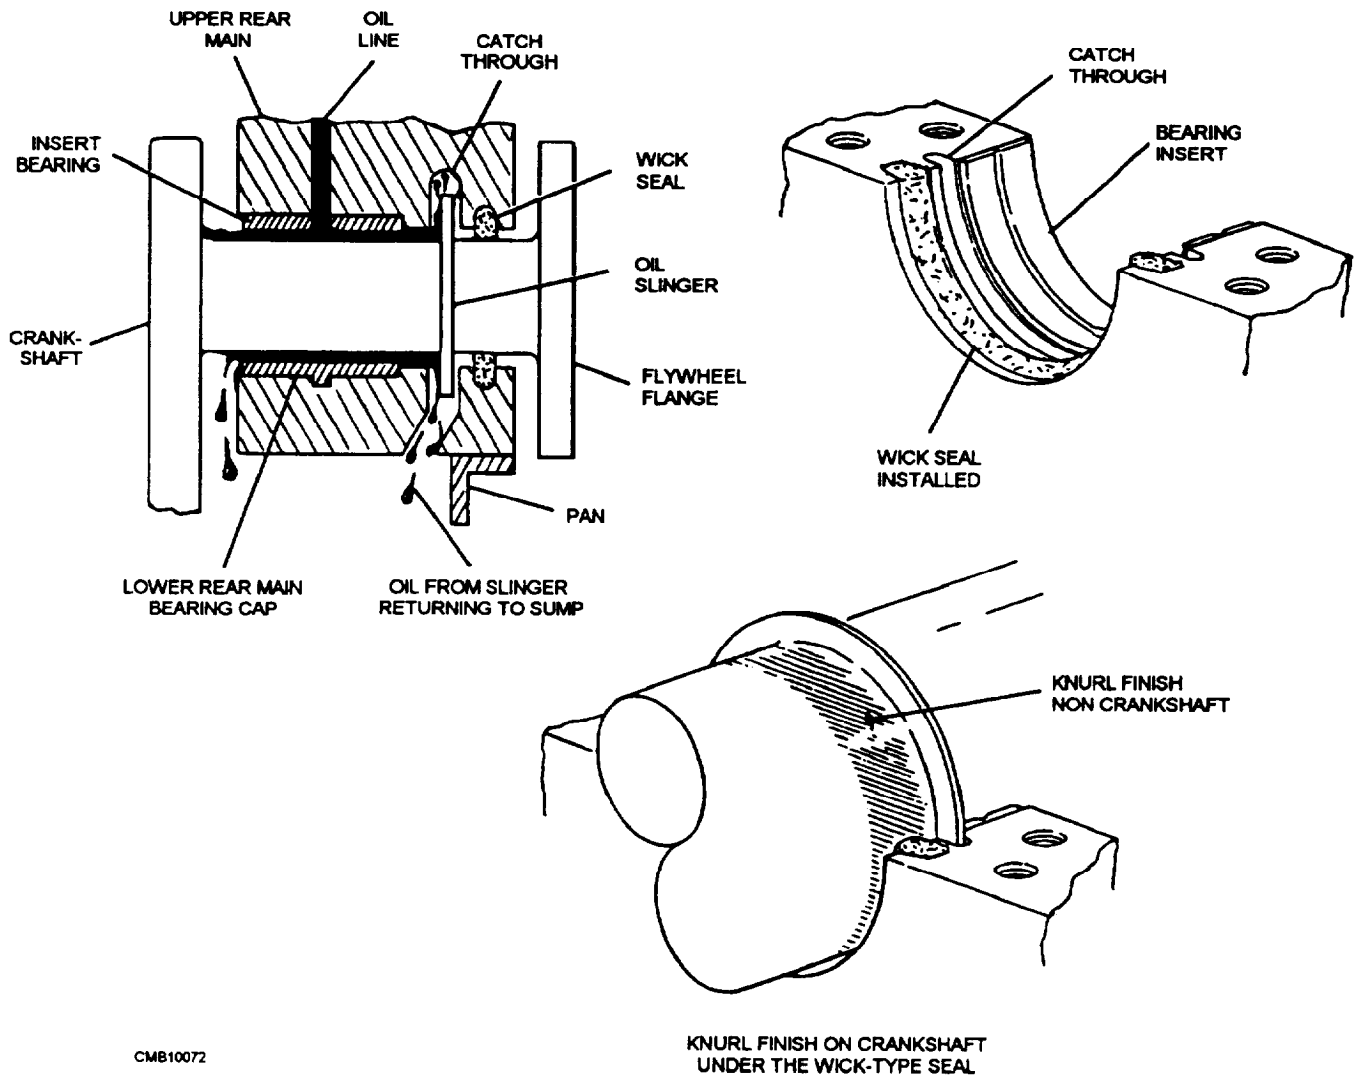

Figure 3-21.—Wick seals.
- **WICK SEALS.** The wick seal (fig. 3-21) is made of graphite-impregnated asbestos. Wicking is sometimes used to control oil leakage. This seal conforms to the recess in which it is installed. When using this type of seal, use a knurl finish on the rotating shaft. The oil is contained between the knurls and seal, which rub together. As the shaft rotates, the oil is driven back by the propeller effect of the seal and knurl finish. An oil slinger sometimes is used with wick seals. The oil slinger is a raised washerlike area on the shaft. As oil meets the slinger, it is propelled outward by centrifugal force. A catch trough then is used to collect the oil and return it to the sump.